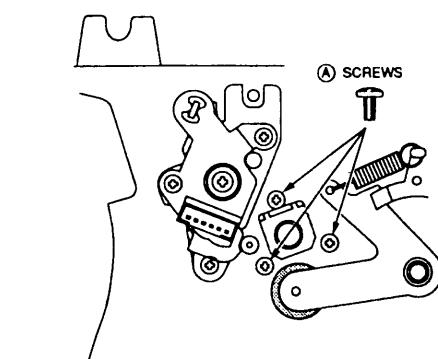

Fig 19.
- Remove the three (A) screws as shown in Fig 19.